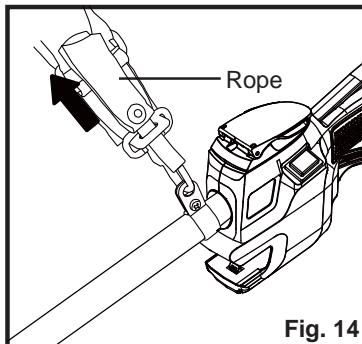

Fig. 14
- In case of emergency, pull the rope of the quick release mechanism. The release latch will be released from the tab, and the machine will drop away from you (Fig. 14).